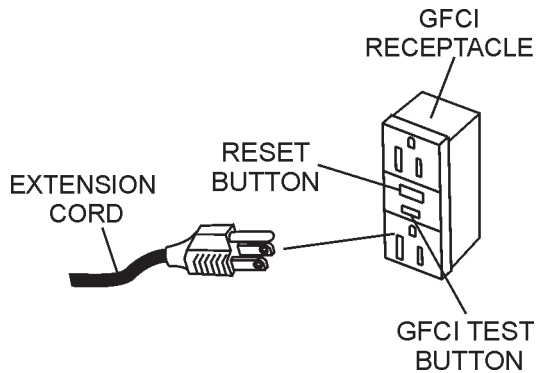

Figure 14. GFCI Receptacle
5. Plug the free end of the extension cord into an AC power receptacle. Whenever possible use a GFCI receptacle (Figure 14) to reduce the risk of electrical shock.